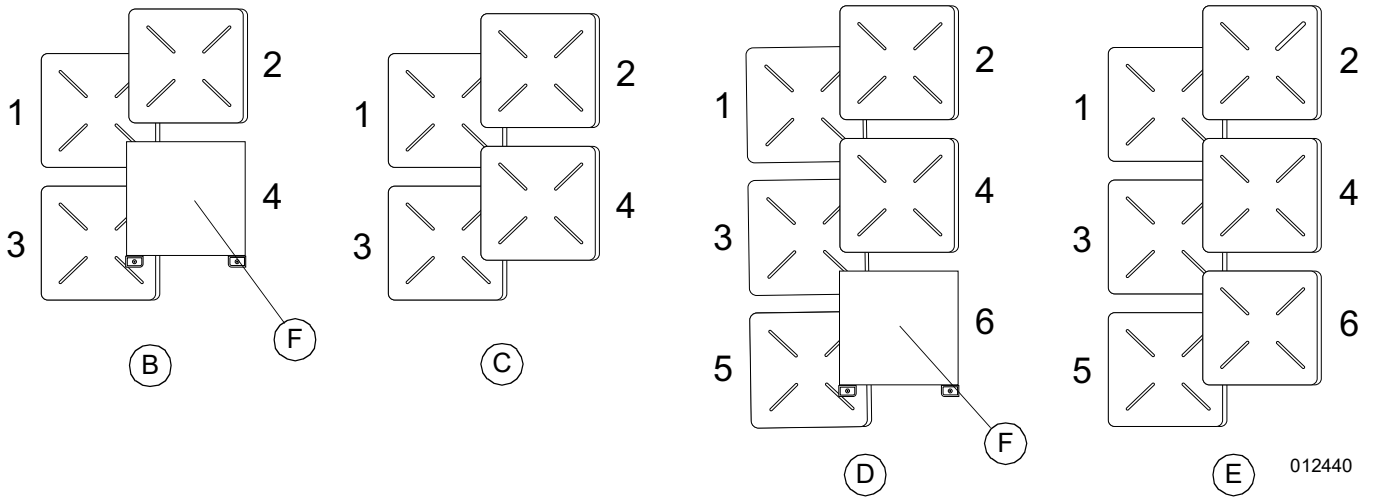

Figure 4-19. Battery Module / Spacer Order of Installation
- See **Figure 4-19** for the order of battery module and spacer installation for PWRcell M3 (B), PWRcell M4 (C), PWRcell M5 (D), and PWRcell M6 (E).
See Figure 4-23. Install front battery modules (N) using the same procedure as used on the rear modules. See Figure 4-19. Battery Module / Spacer Order of Installation.